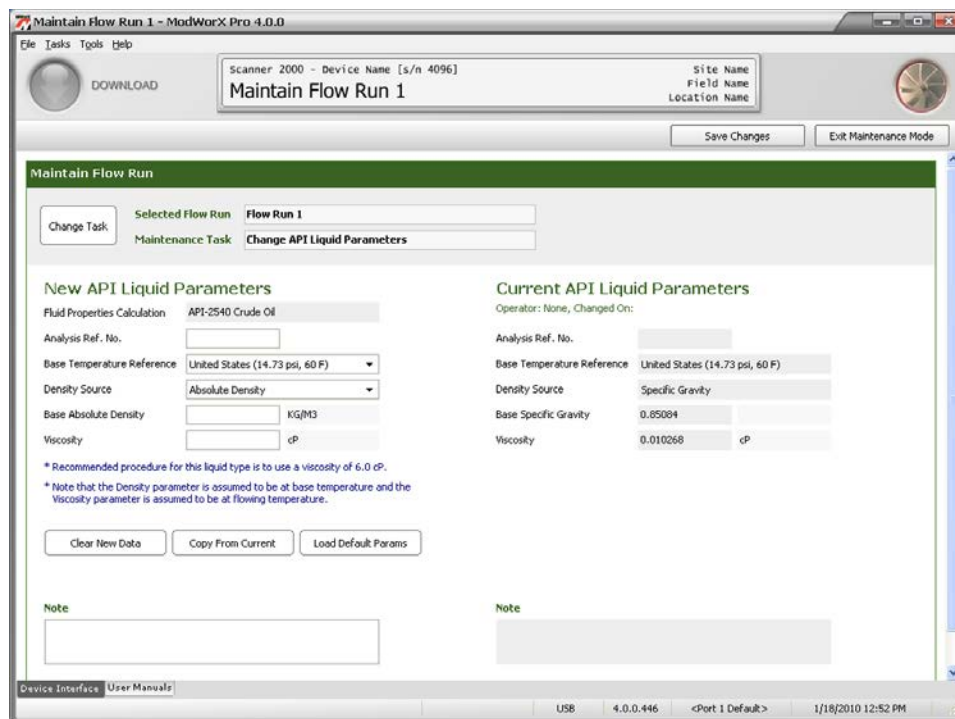

Figure C.3
- b. Click **OK** to save the settings and return to the Maintain Flow Run screen (Figure C.3, page C-3).